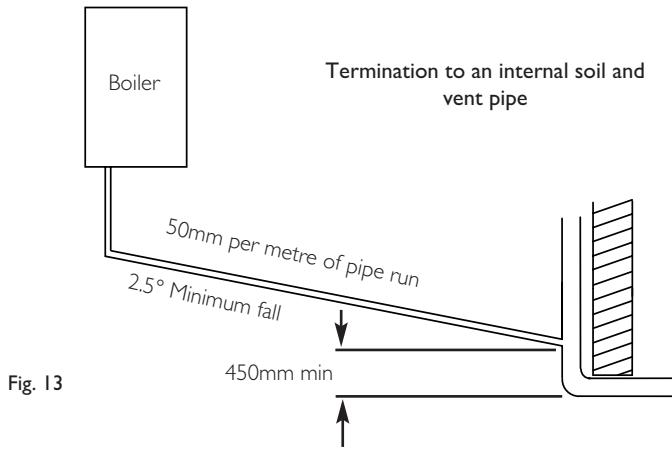

Fig. 13
i) to an internal soil & vent pipe - Fig. 13